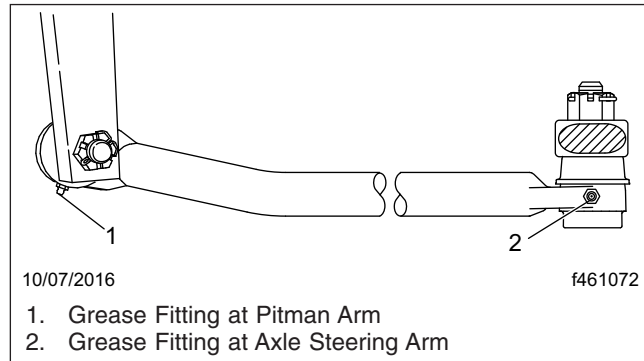

Fig. 5, Drag Link
2. Using a clean rag, wipe all dirt from both drag link grease fittings. See Fig. 5.